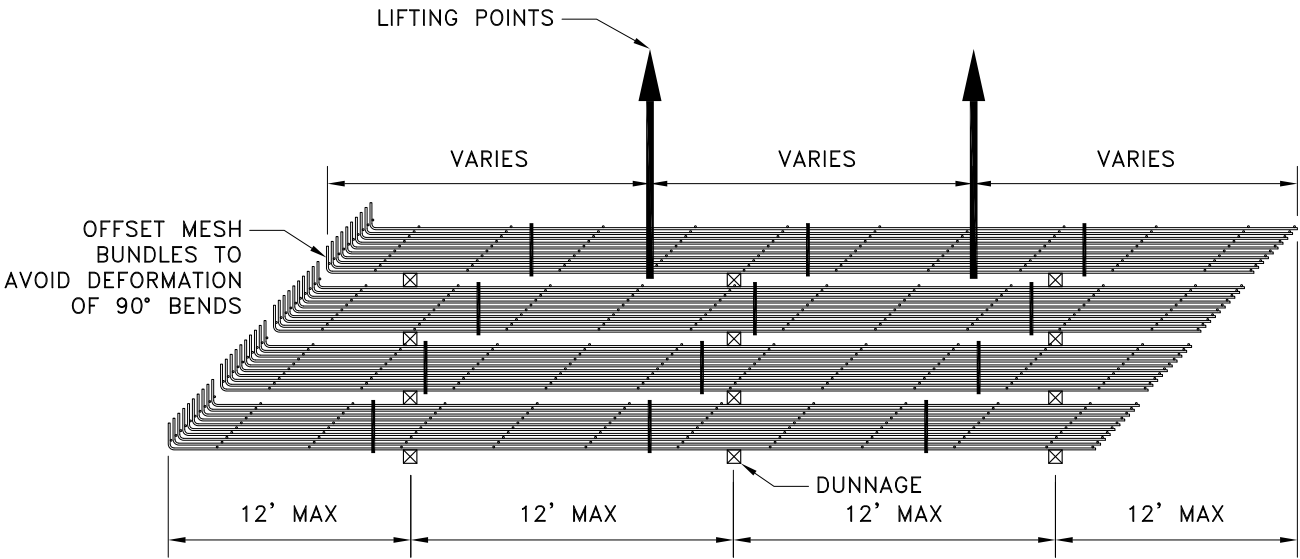

FIGURE 3
1. SOIL REINFORCEMENT ARRIVES TO THE SITE ON A FLATBED TRUCK WITH DUNNAGE SEPARATING THE DIFFERENT BUNDLES OF SOIL REINFORCING (SEE FIGURE 3).
2. OFF-LOAD THE SOIL REINFORCING CAREFULLY, USING AT LEAST TWO BALANCED PICK POINTS (SEE FIGURE 3). MAKE SURE TO UNLOAD SOIL REINFORCING IN A WAY TO CAUSE THE LEAST DAMAGE TO THE MATERIAL.
4. ENSURE THAT THE DUNNAGE UNDER THE STACKED BUNDLES OF SOIL REINFORCEMENT ARE NOT SPACED MORE 12 FEET APART HORIZONTALLY (SEE FIGURE 3). NOTE THAT THE PLACEMENT OF THE DUNNAGE IN FIGURE 3 ARE SHOWN FOR CLARIFICATION PURPOSES ONLY. DUNNAGE MAY NEED TO BE ADDED OR REMOVED BASED ON THE LENGTH OF THE SOIL REINFORCEMENT BEING PLACED INTO STORAGE.